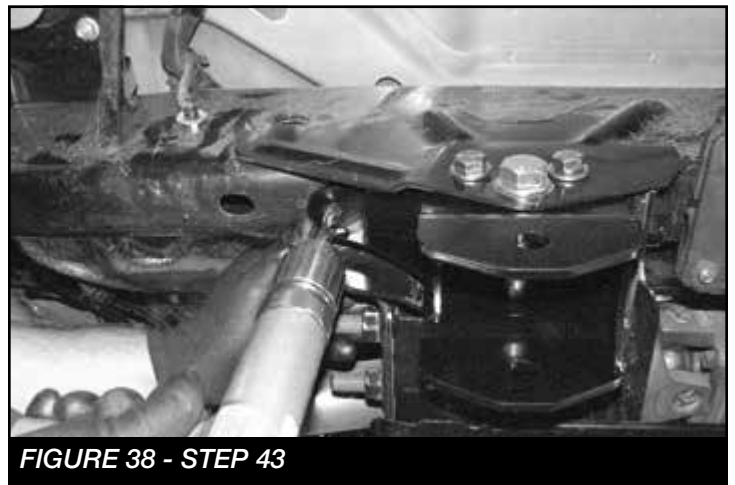

FIGURE 38 - STEP 43
43. Using the Fabtech the radius arm drop bracket as a drill guide, drill a 1/2" hole through the bottom of the frame. **SEE FIGURE 38**